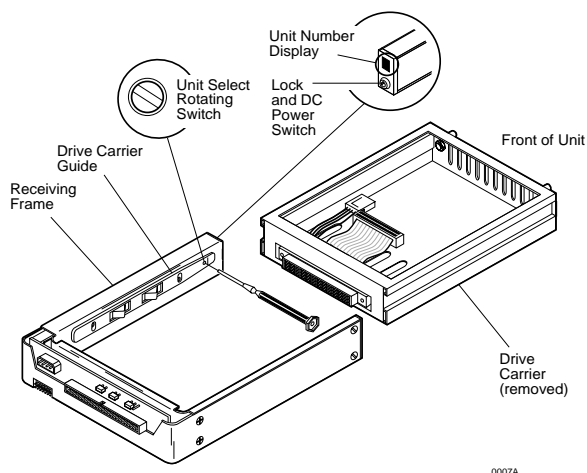

Figure 10: Unit ID Select Switch Location
4. Use the alignment tool supplied with the DE100i-S to select the unit ID number of the disk drive. Refer to Figure 10 for the location of the Unit ID Select Switch inside the receiving frame.